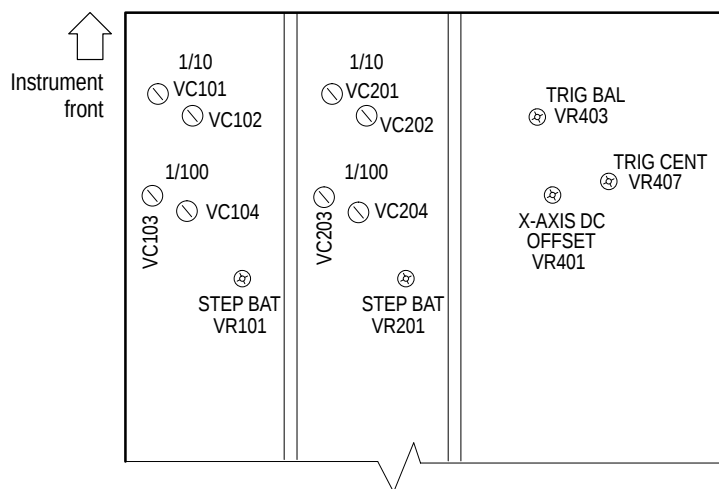

Figure 10: Main Board (Viewed from the Instrument Bottom)
2. On the oscilloscope Main board, adjust VR101 (VR201) for a minimal trace shift when switching the front panel CH 1 (CH 2) VOLTS/DIV control between 5 mV and 10 mV. See Figure 10 for the adjustment locations.
3. Adjust VC102 (VC202) to obtain an optimum waveform symmetry with minimal overshoot. See Figure 10 for the adjustment locations.
5. Readjust the generator output to produce a waveform five divisions in amplitude. Adjust VC104 (VC204) to obtain an optimum waveform symmetry with minimal overshoot. See Figure 10 for the adjustment locations.
12. Adjust VC101 (VC201) to flatten the waveform. See Figure 10 for the adjustment locations.
15. Adjust VC103 (VC203) to flatten the waveform. See Figure 10 for the adjustment locations.
5. Adjust VR401 to position the spot to the center vertical graticule line. See Figure 10 for the adjustment location.